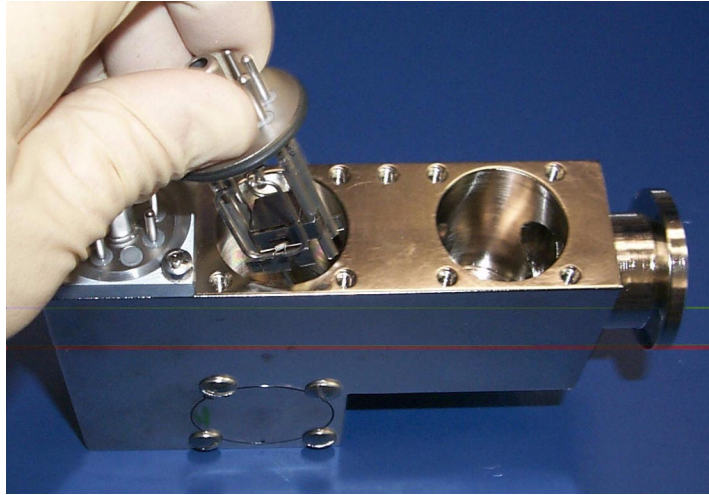

Figure 5-11 Removing the Ion Source
15. Remove the ion source from the spectrometer tube body (Figure 5-11).
7. Gently slide the ion source out of the spectrometer tube body (Figure 5-11 on page 5-11).